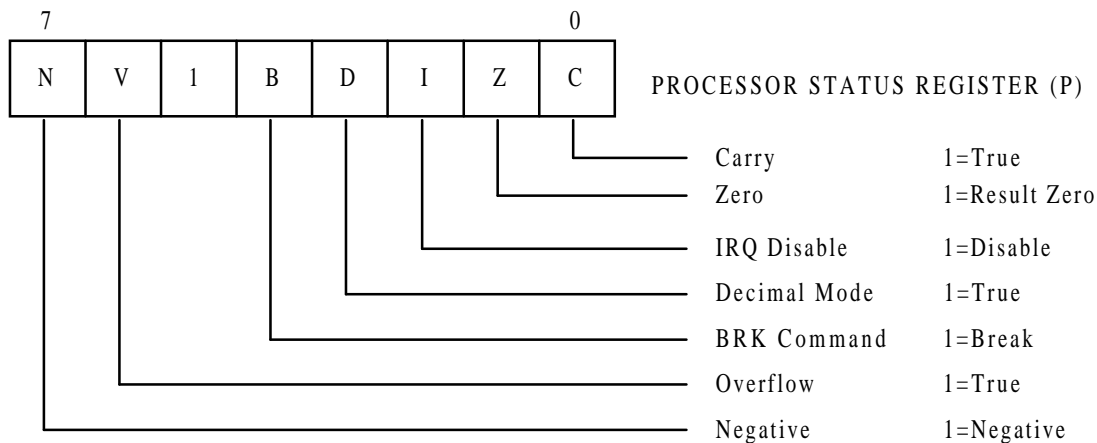

Fig. 1-1-2 Status Register of the 6502
The **processor status register (P)**, see Fig. 1-1-2, contains seven usable bits. Five of these bits are “status flags”; they provide information on the result of a previously executed instruction (in most cases, the preceding instruction). The two other bits are “control bits”.